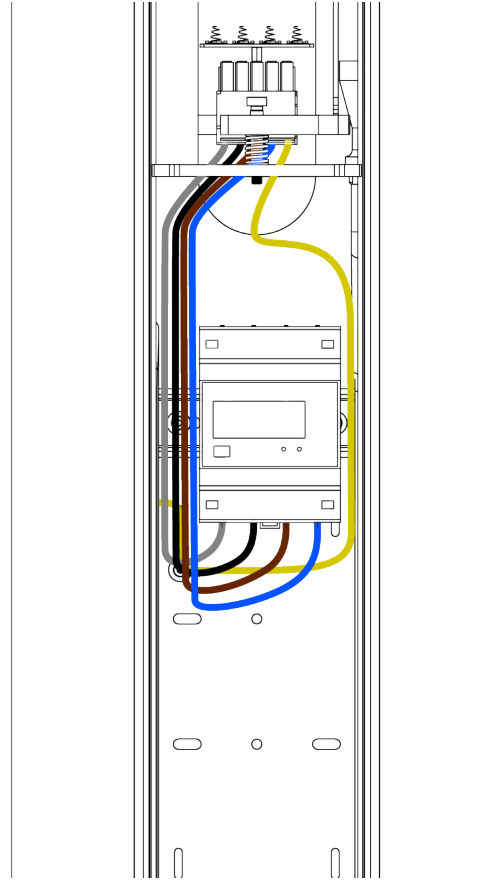

Fig. 40: MID meter fitted in Vertica Pole.
4. In the case of a Vertica pole equipped with a Vertica link module, connect two signal wires to the rail connectors located on the top DIN rail (on the right side). Connect the red wire to the connector labeled ,A+' (to which the red wire is already connected), and the green wire to the connector labeled ,B-' (to which the green wire is already connected) - see Figure 40.